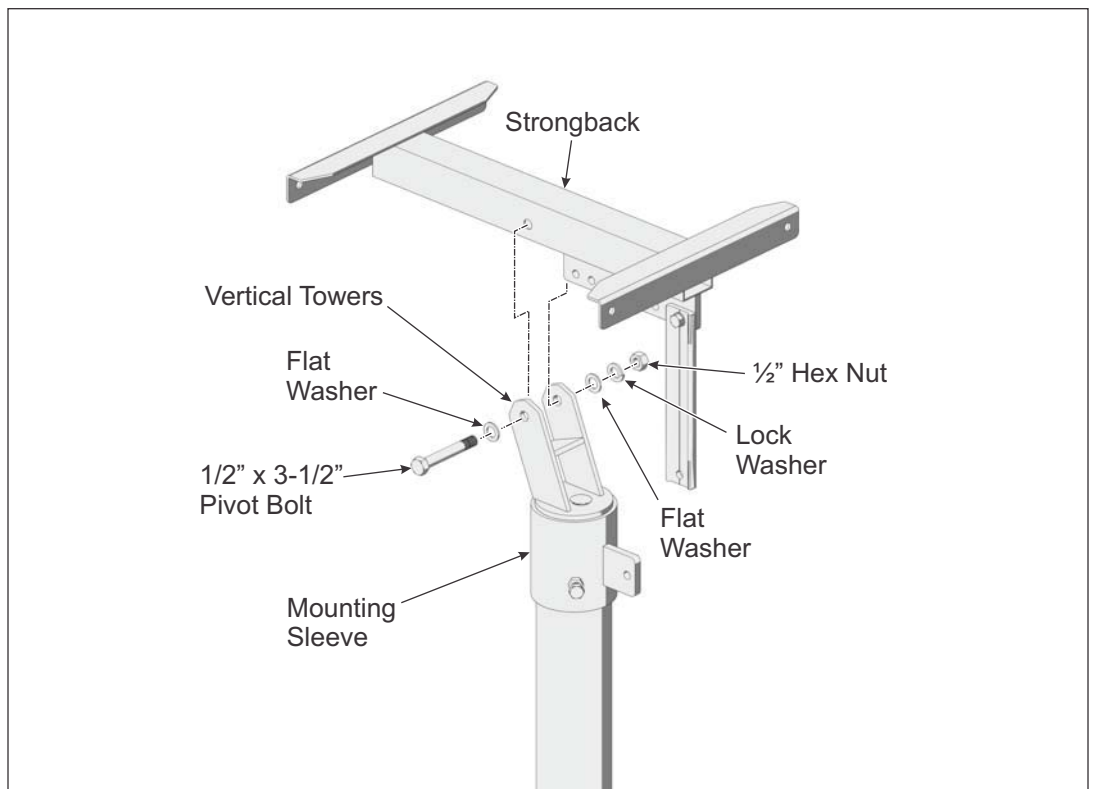

Figure 2-2: Installing the Strongback
- B. Remove the Pivot Bolt from the Mounting Sleeve and also collect the 3/8" x 1-1/4" bolt, nut, flat washers and lock washer needed to secure the Support Bar to its Pivot Tab on the Mounting Sleeve. (See Figure 2-2)